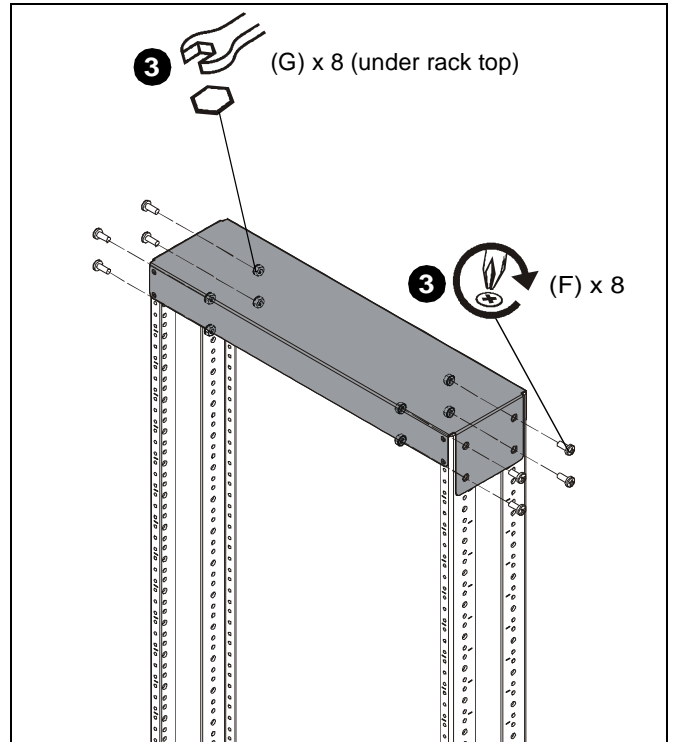

Figure 3
3. Use eight screws with washers (F) and eight 1/4-20" lock nuts (G) to secure four rack rails (C) to rack top (A). (See Figure 3)